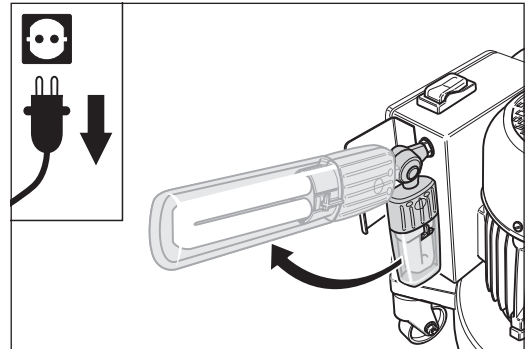

Fig. 82 Swivel the working light upward.
- 2 Swivel the working light upward (fig. 82).